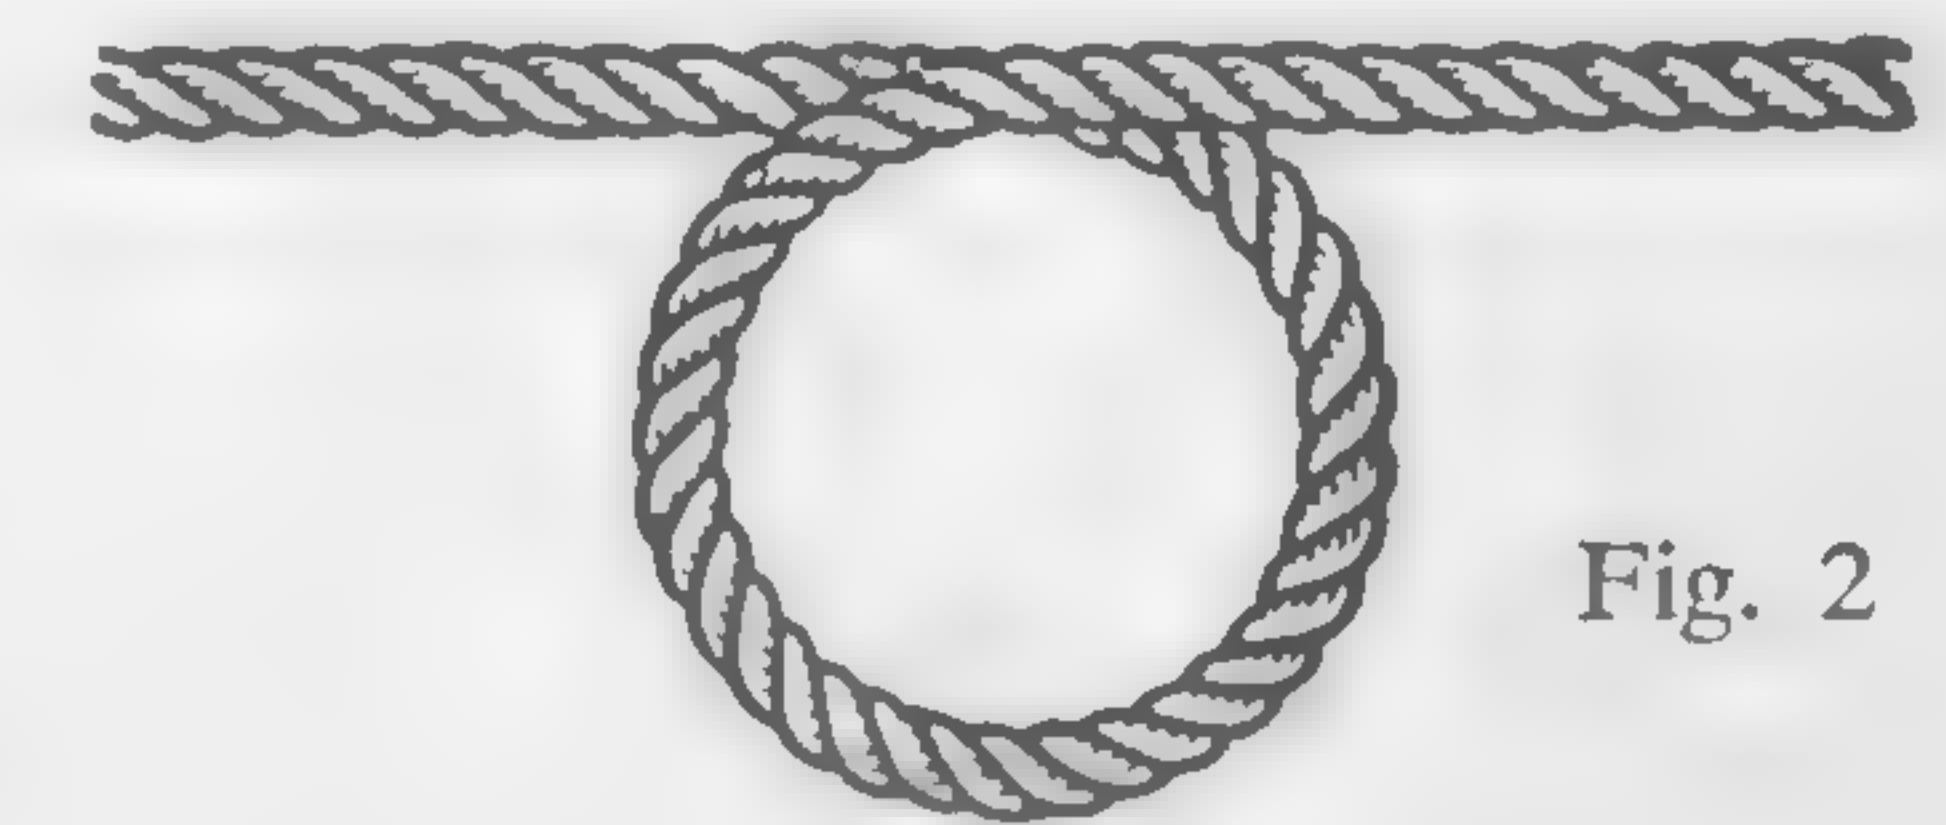

Fig. 2
**"Loop" or "Turn"** — this is formed by crossing the sides of a bight (Fig. 2).